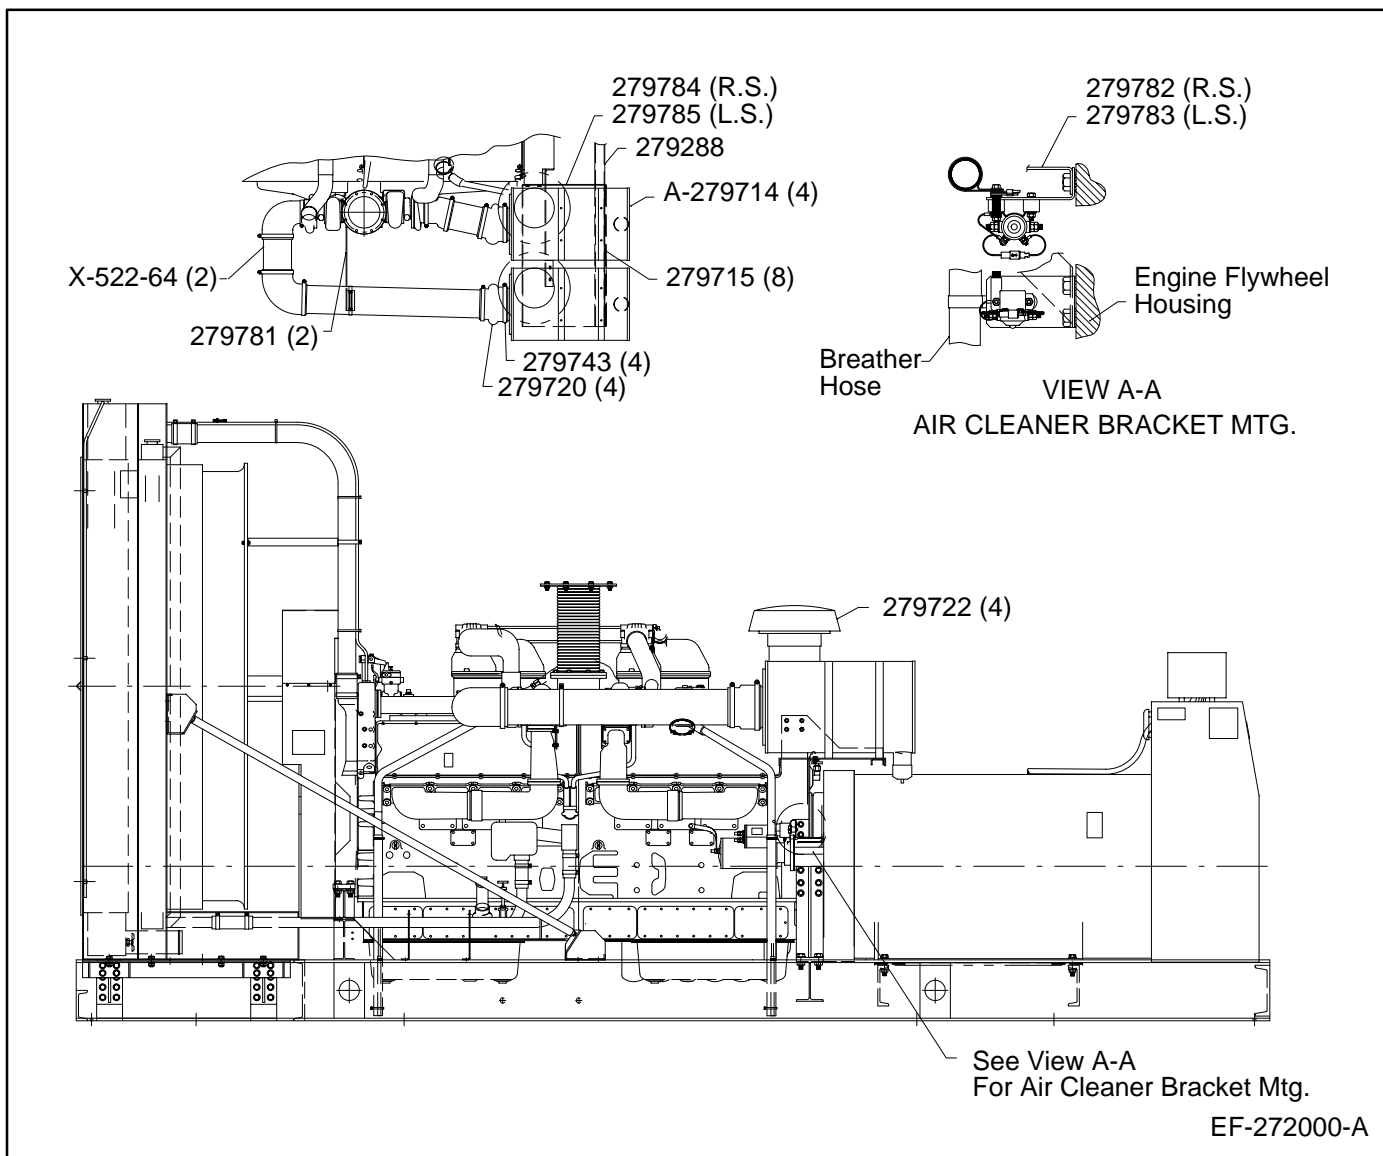

Figure 1. Heavy-Duty Air Cleaner Kit Installation.
3. Install mounting brackets (279784 and 279785) and support brackets (279782 and 279783) from kit on sides of engine indicated on Figure 1. Use engine flywheel housing attaching bolts as noted on View A-A on Figure 1.
Assemble two steel tubes (X-522-64), four hose humps (279720), and four hose clamps (279743) to engine. Use existing hardware and piping as shown in Figure 1. Do not tighten hose clamps at this time.